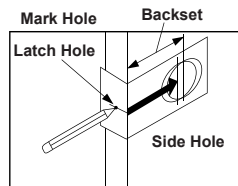

Fig. 14
Step 1. Using the provided template, mark the locations for the centers of the backset and the latch hole (Fig. 14).